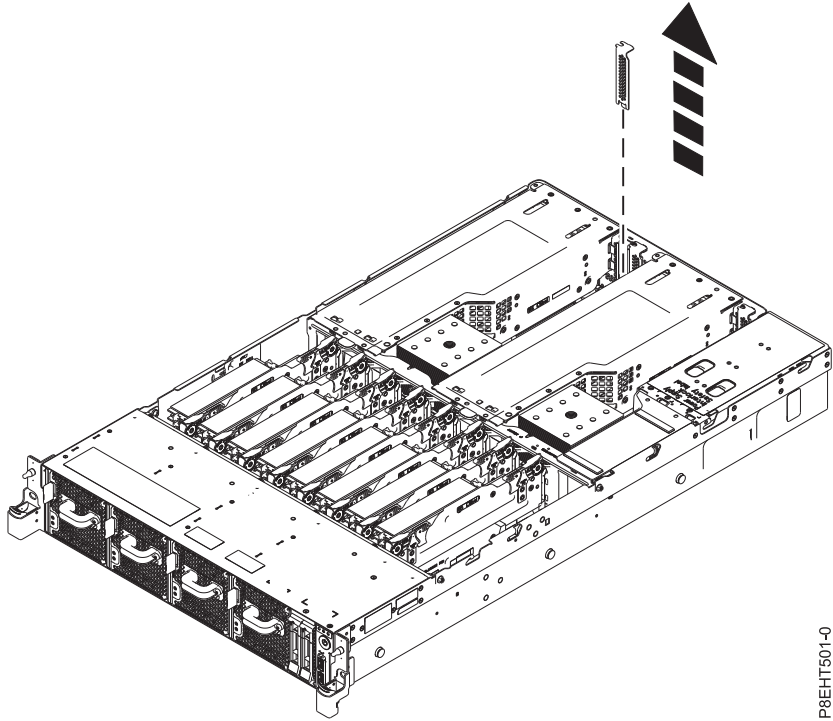

Figure 37. Removing the PCIe slot cover
3. Remove the PCIe slot cover. See Figure 37.